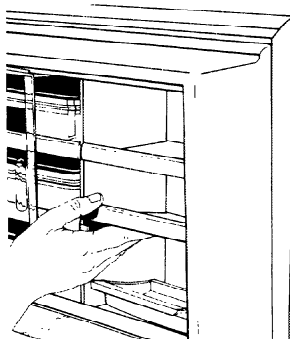

FIGURE 55
1. Lift the front part of the shelf up and pull out at an angle. See Figure 55.